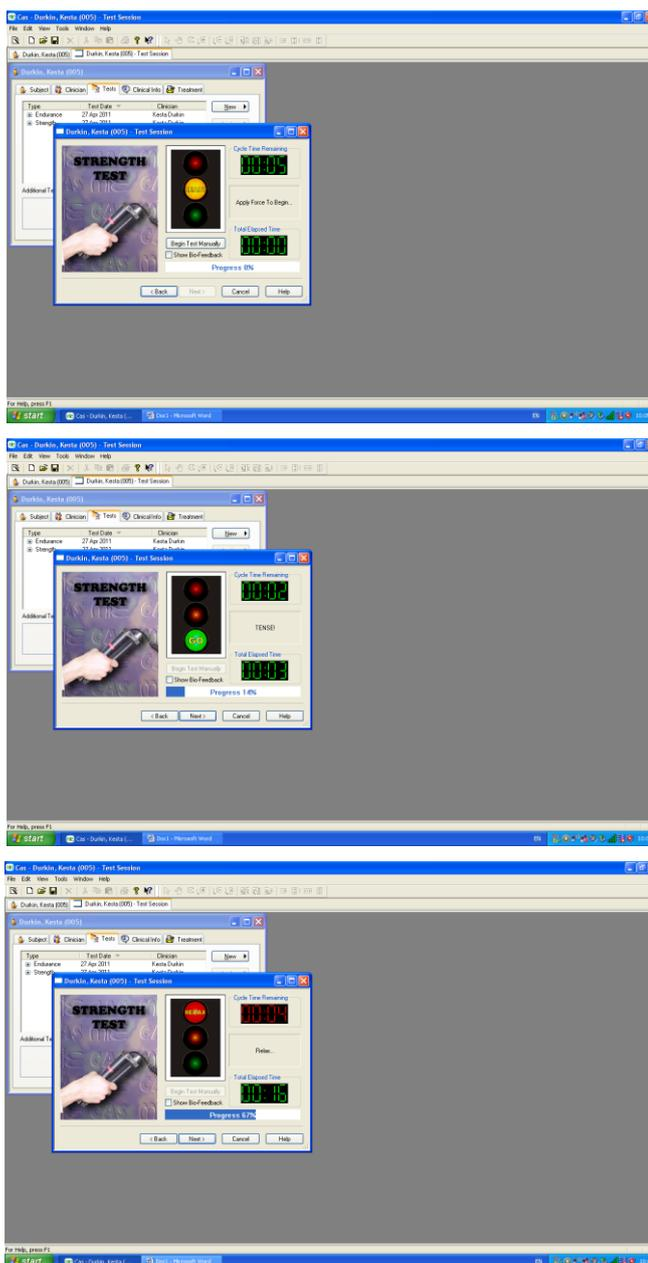

Figure 12.
6. The participant must grip the handles and follow the spoken or on-screen instructions adhering to the specified times entered in the test details section. Traffic light signals are displayed to indicate "get ready", "grip" and "stop" (figure 12).